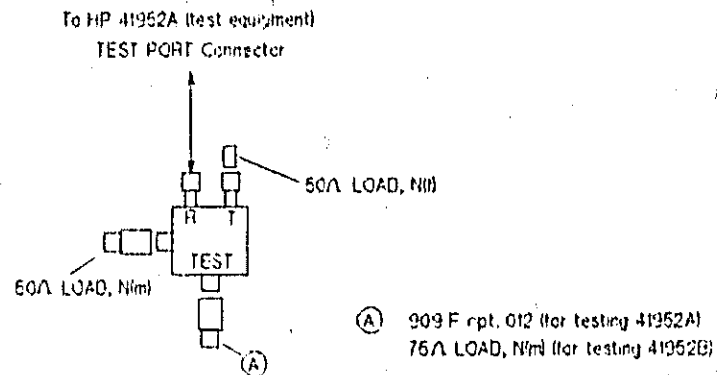

Figure 4-4, INCIDENT connector Port Match Test Setup
- b. Connect the HP 85032B's N(f) LOAD standard to the REFLECTED (T) connector of the HP 41952A/B (under test).
- c. Connect the HP 85032B's N(m) LOAD standard to the RF INPUT connector of the HP 41952A/B (under test), as shown in Figure 4-4.
- d. Connect the INCIDENT (R) connector of the HP 41952A/B (under test) to the TEST PORT connector of the HP 41952A (test equipment).